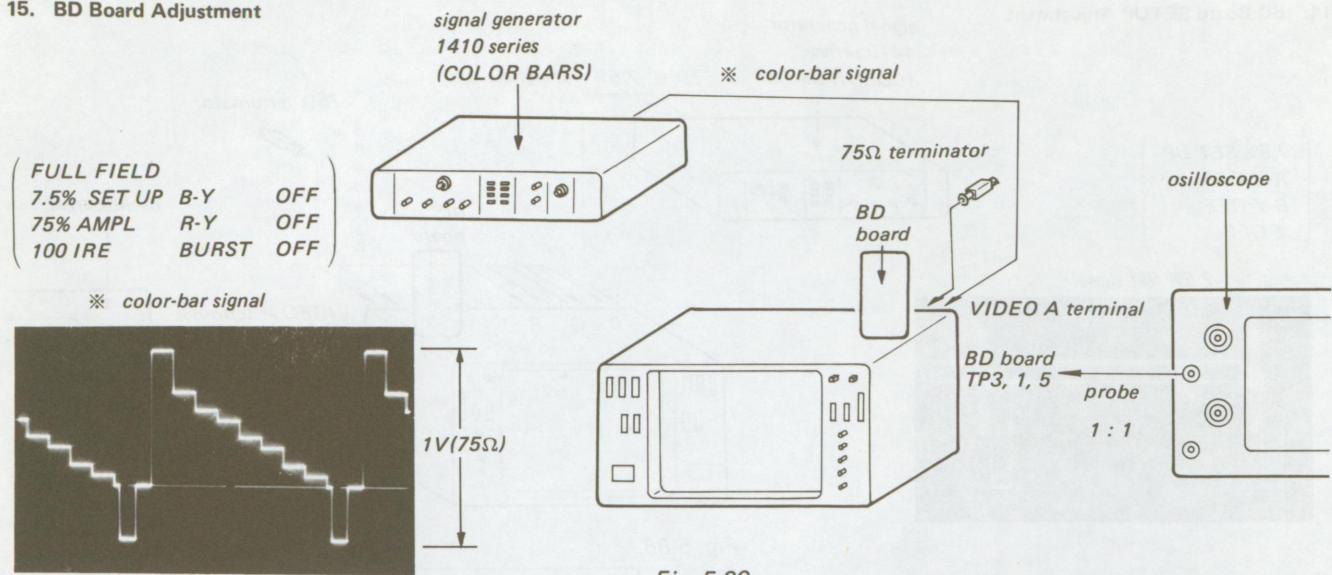

Fig. 5-90.
1. Complete the connections as shown in Fig. 5-90.